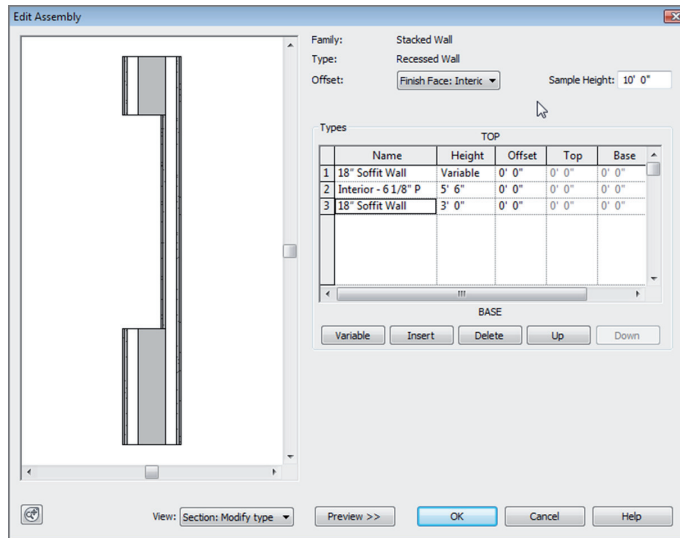

FIGURE BC1.23: Creating the stacked wall
- At the top of the dialog box, change Sample Height to 10'-0" (3000 mm) (see Figure BC1.23).